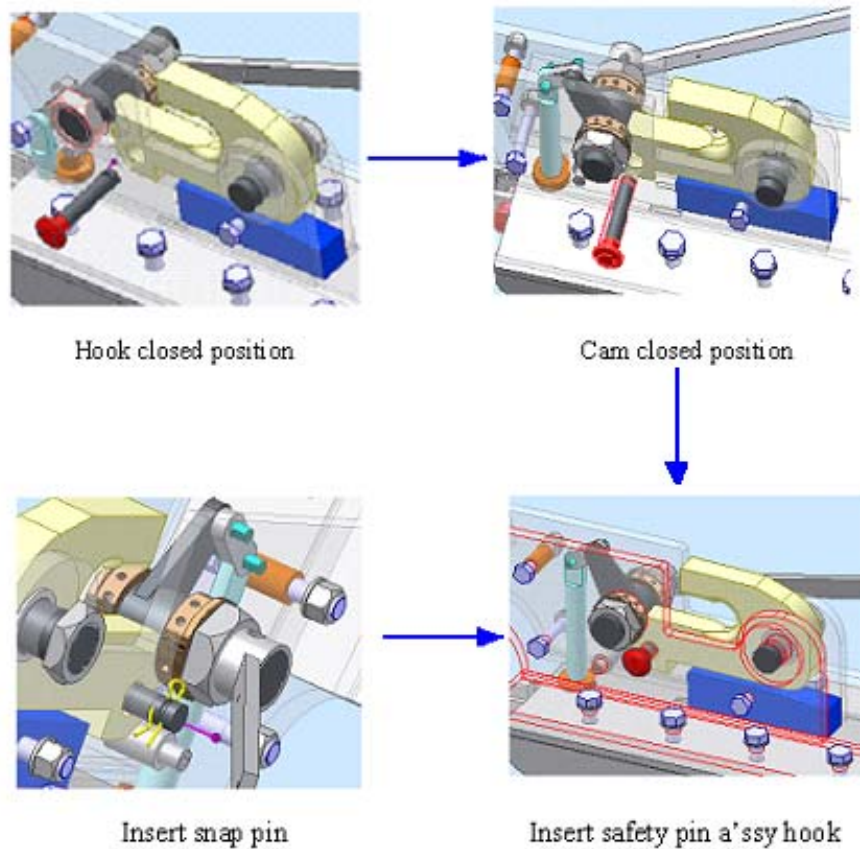

Fig. 5.4.1 Reset principle of the hook unit on the ship
After the resetting of hook, the posture of hook is returned at the close position. And insert safety pin a'ssy hook and snap-pin on the ship. (see figure 5.4.1)
In case of the emergency situation, turn the emergency nut (item 16) counterclockwise by using the hexagon ratchet (item 48) after pull out the snap-pin (item 41), safety-pin (item 11), snap-pin (item 42) and safety-pin (item 20) in the order named as above. (See figure 5.4.1)
Pull the master link in the hook (item 4) and then, raise the handle (item 19) after inserting the safety-pin (item 11) and snap-pin (item 41) in sequence. (See figure 5.4.1)